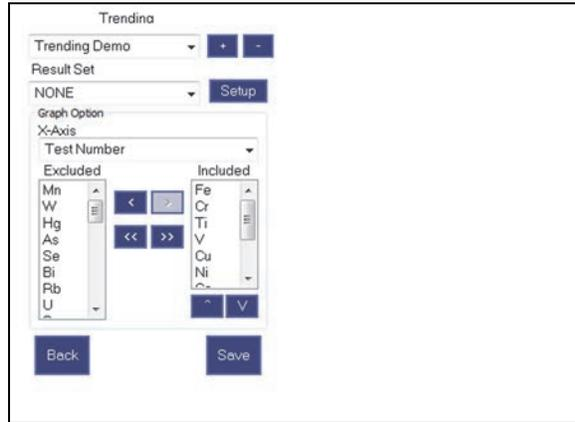

Figure 1-57 The Trending pane – template setup
- Click **Save** to return to the **Trending** pane (see Figure 1-57 on page 43).